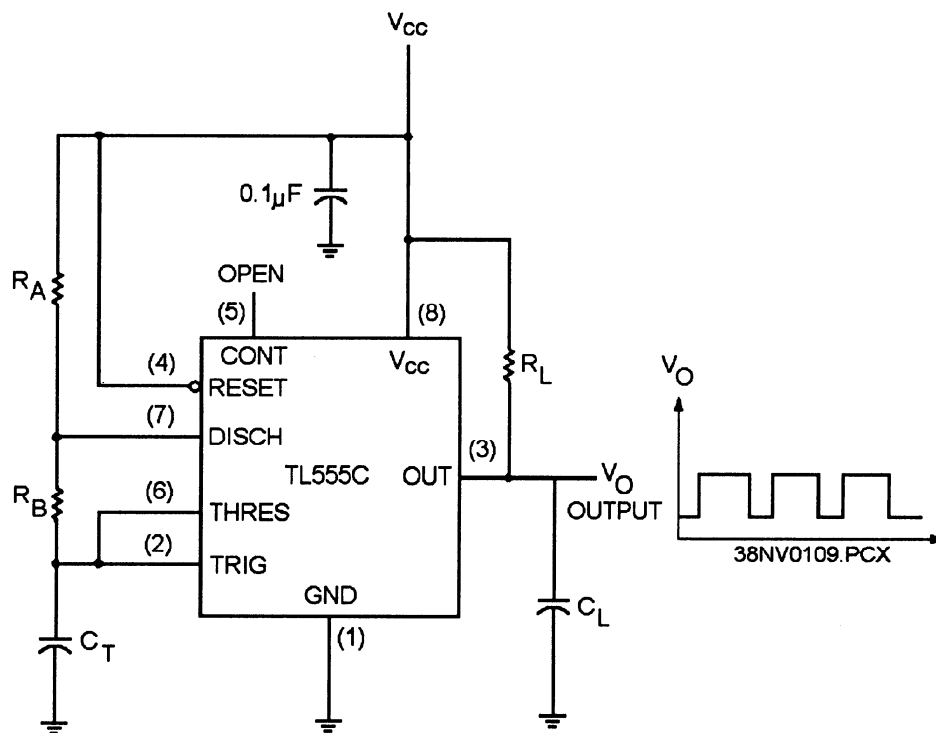

Figure 4-34.—Example of a timer circuit for astable operation.
**TIMERS.**—Timers use a basic comparator circuit to drive a flip-flop. They can be used to produce a circuit known as an astable multivibrator, which is used to generate digital pulses of known widths and to provide known time delays in digital circuits. These timer circuits are used in the computer's timing and control section. See figure 4-34.